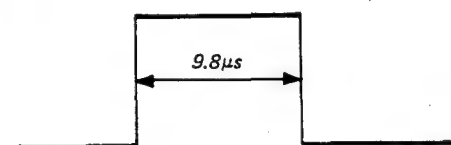

Fig. 23-2
6. Adjust RV1 on the DA board so that the H. BLK pulse width is 9.8 μ s. Fig. 23-2.